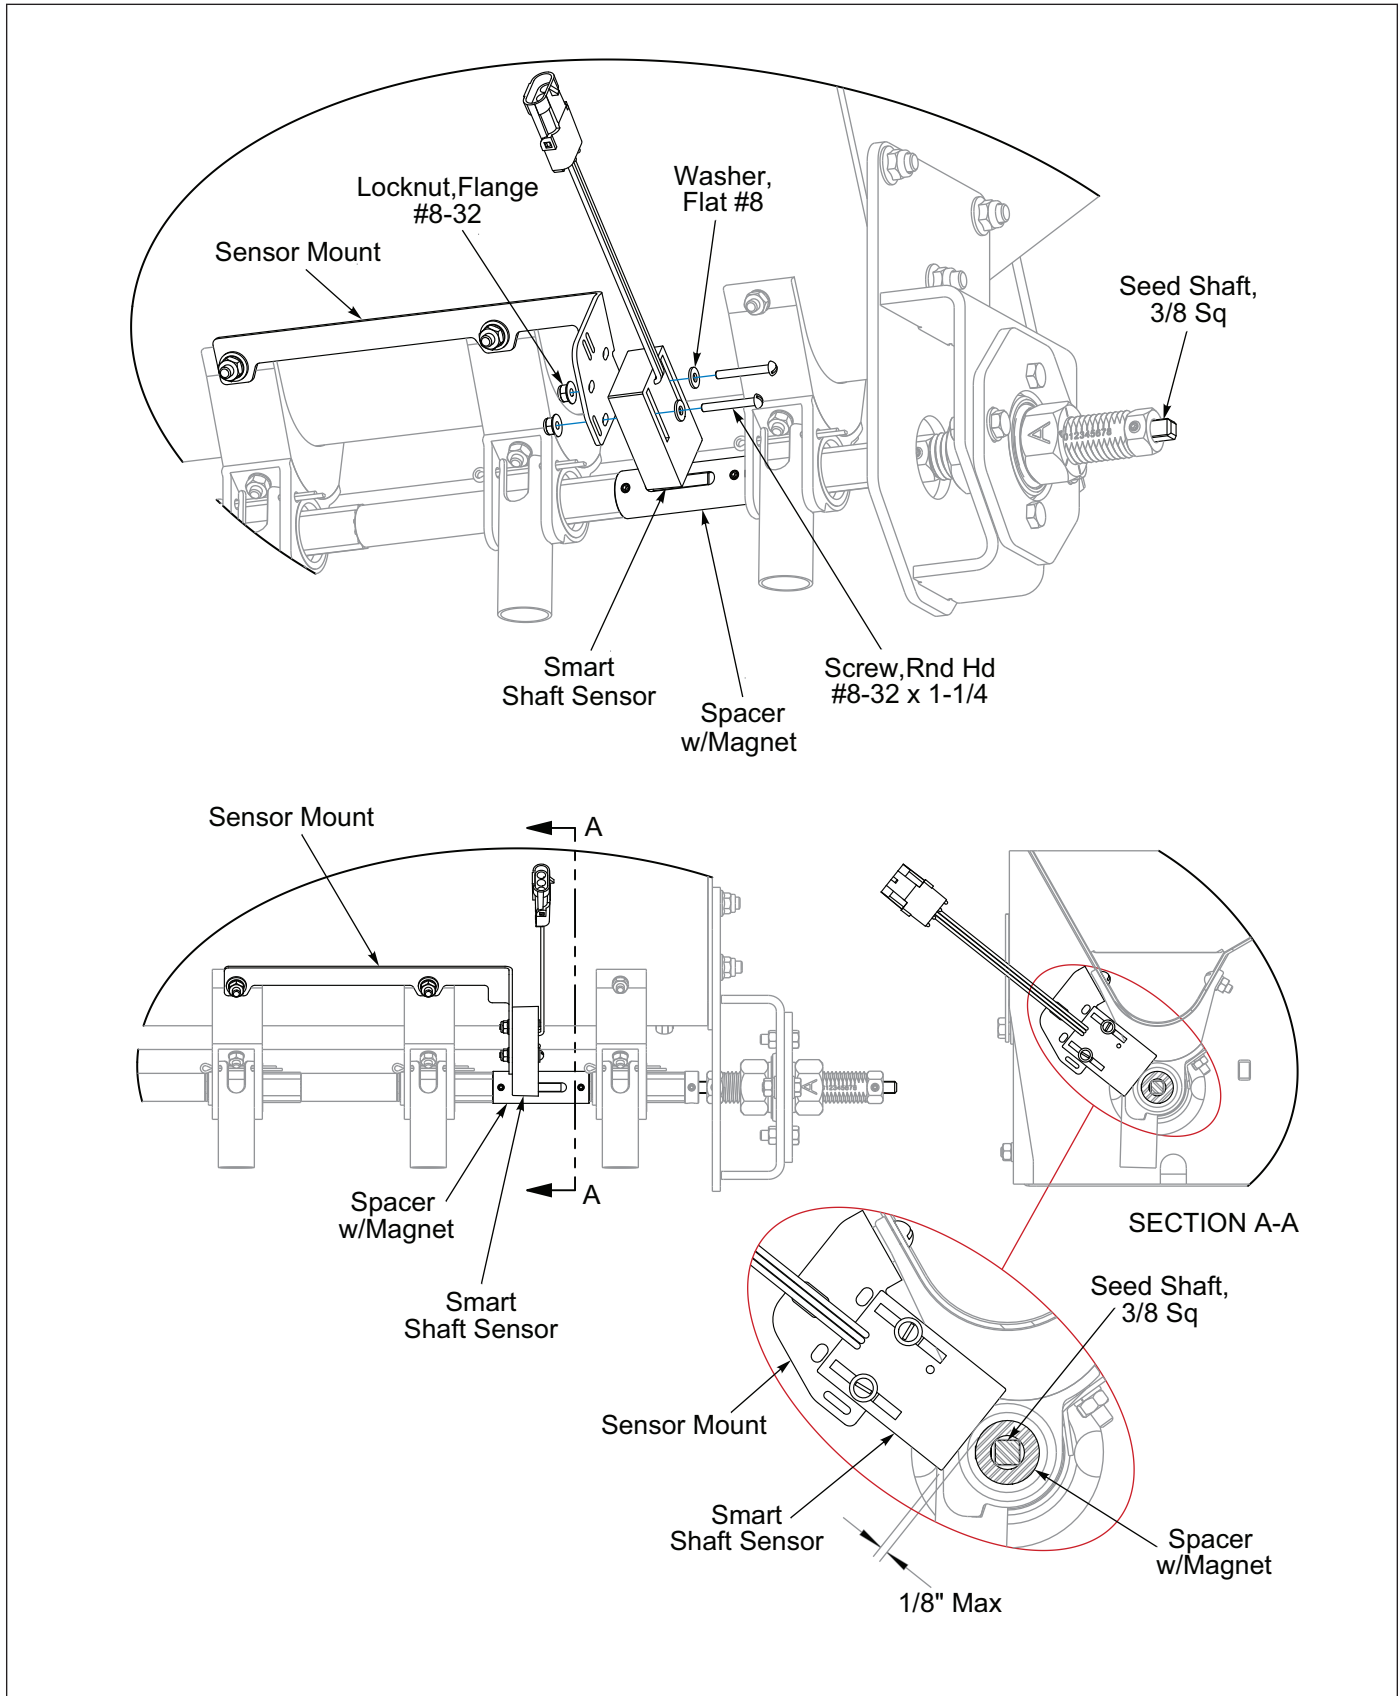

Figure 2-6: Brillion Elite Mini Monitor - Seed Shaft Sensor
2. Rear RH side of each Seeder Section has a Sensor Mount mounted on two Seed Cups. Install a Smart Shaft Sensor to the Sensor Mount with sensor provided hardware and #8-32 Flange Locknuts. Adjust the Smart Shaft Sensor so that it is 1/8" Max away from the pre-assembled Spacer w/Magnet on the Seed Shaft. See Figure 2-6. Connect the Smart Seed Shaft Sensor to the Seeder Harness.